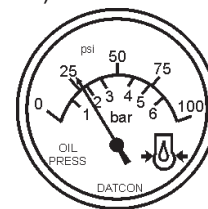

Figure 49. Oil Pressure Gauge
11. The engine oil pressure gauge (Figure 49) will indicate the oil pressure of the engine. Under normal operating conditions the oil pressure is approximately 42 to 71 psi. (290~490 kPa).